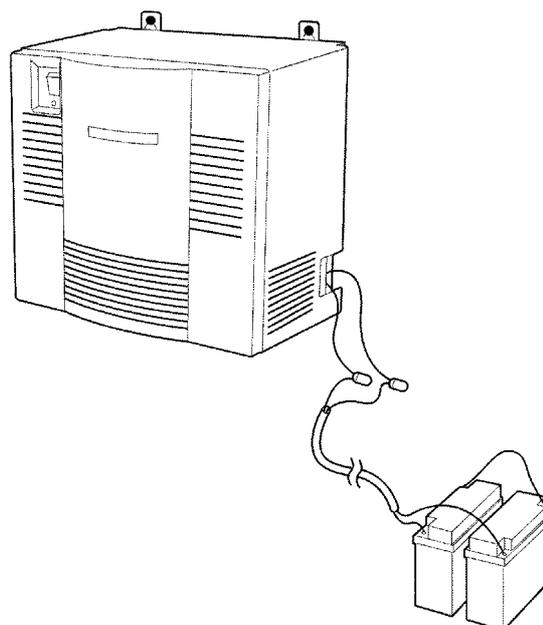

Figure 4-48 Reinstalling the KSU Cover
4. Reinstall the KSU cover. Refer to Figure 4-48 Reinstalling the KSU Cover.